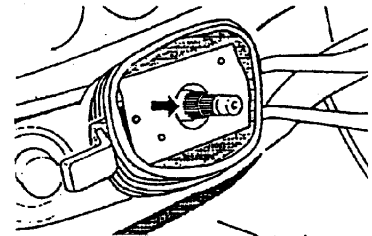

Figure 1A
Step 4: Inspect the base of the spline for any burrs and remove any burrs with a key file or suitable tool. (A burr in this area may cause the turn signal cancelling ring to bind slightly inside the contact reel.) Figures 1A, 1B and 1C show the area where burrs are possible.